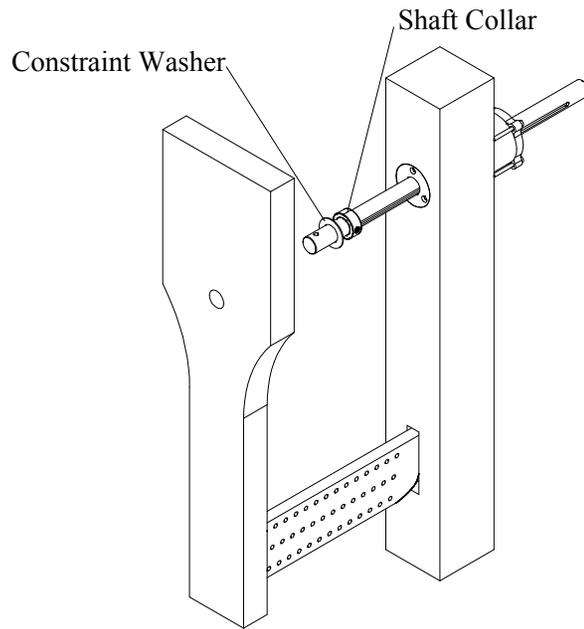

FIG. 4
Step 8: Place the shaft collar and 1-3/4" dia. constraint washer on the clamp shaft as shown in Fig. 4. Install the jaw on the clamp shaft so the clamp shaft protrudes through the jaw a couple of inches. The constraint washer should fit into the 1-3/4" diameter hole drilled in the back side of the jaw.